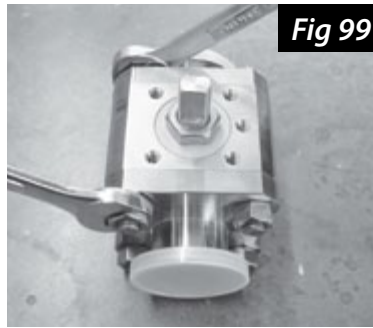
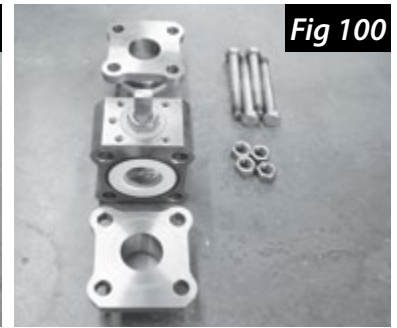

Fig 99
Fig 100
3. Remove the four body bolts using the two wrenches specified below (Fig 99). Remove the end caps and place them in a safe location (Fig 100).